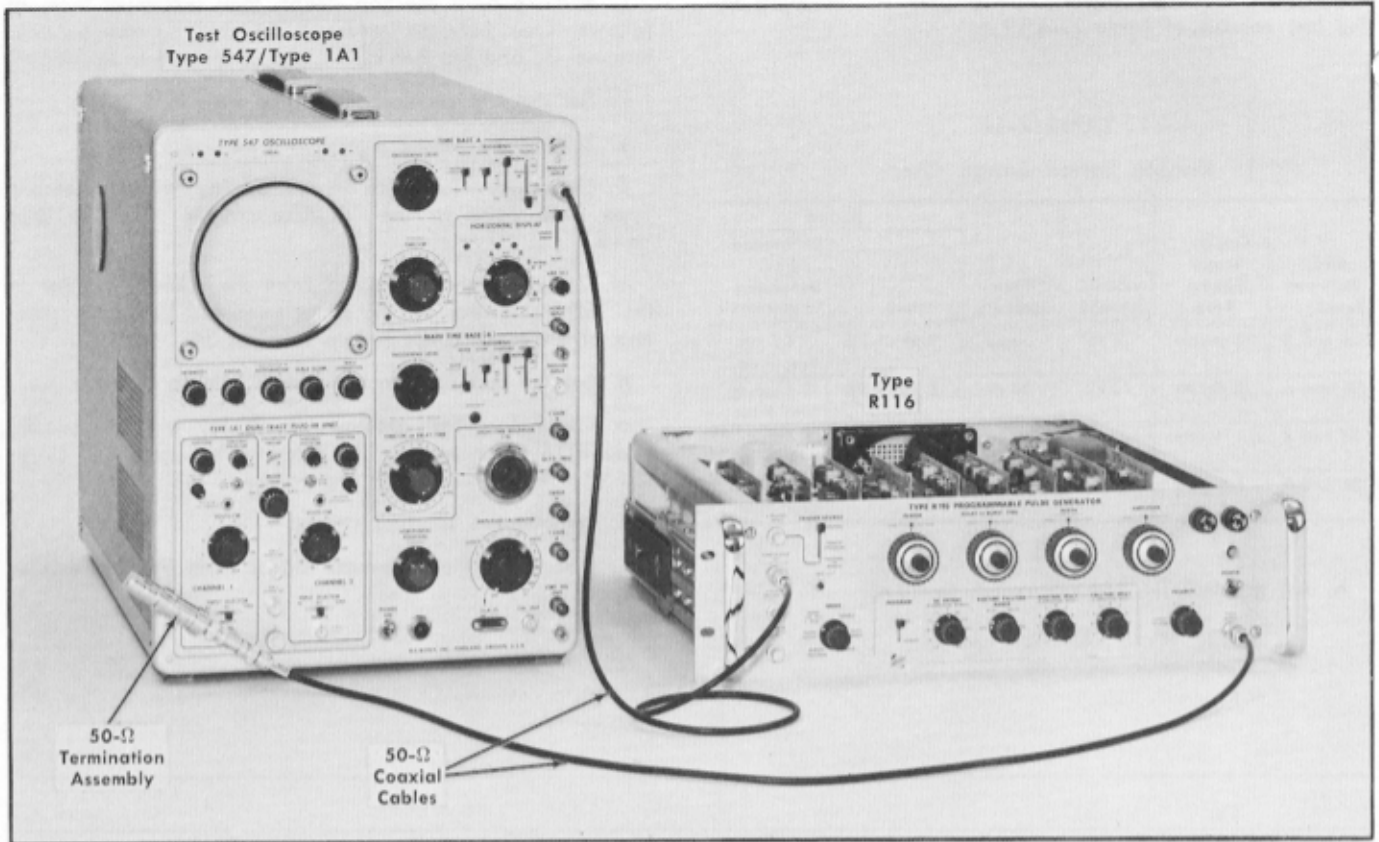

Fig. 7-40. Initial test equipment setup for calibration steps 37 through 41.
- a. Test equipment setup is shown in Fig. 7-40.